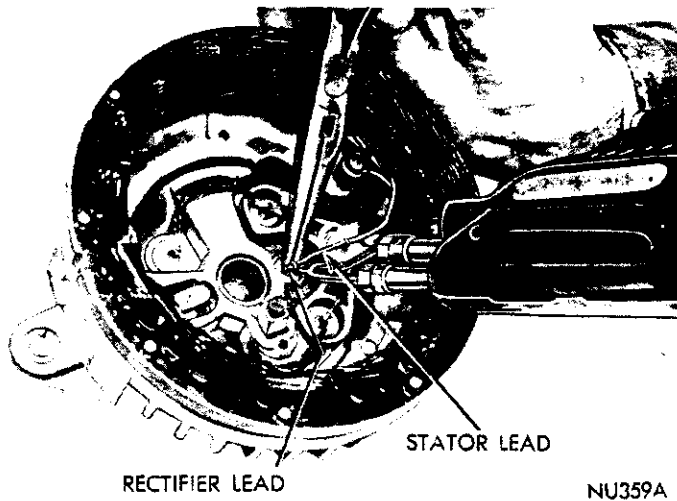

Fig. 29—Soldering Rectifier and Stator Leads
(4) Clean the leads and mate stator lead with rectifier wire and bend the loop snugly around stator lead to provide a good electrical and mechanical connection. Solder wires with resin core solder. Hold rectifier lead wire with pliers just below the joint while soldering (Fig. 29). Pliers will absorb heat from the soldering operation and protect rectifier. **After soldering, quickly cool soldered connection; touch a dampened cloth against it. This will aid in forming a solid joint.**
(5) After soldering, stator leads must be pushed down into the slots cast into the end shield and cemented with Cement Part Number 2299314 or equivalent to protect the leads against possible inference with the rotor fans. Test each replacement rectifier to make certain rectifier was not damaged by the soldering or pressing operations.